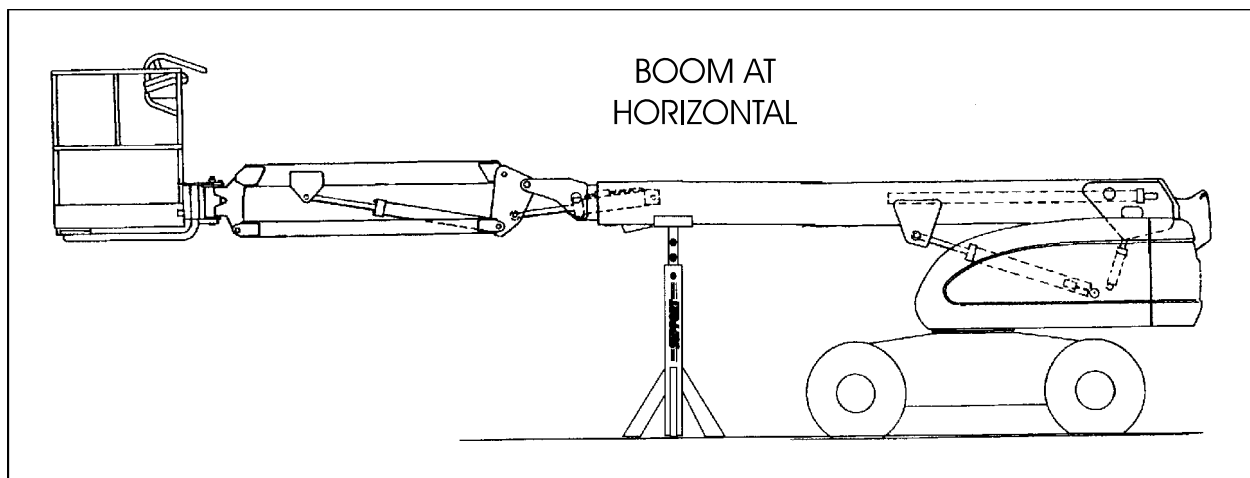

Figure 4-24. Boom Positioning and Support, Cylinder Repair (S Models)
9. Shut down engine. Support main boom basket end with a prop. See Figure 4-24., Boom Positioning and Support, Cylinder Repair (S Models).